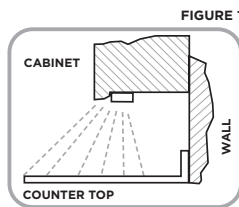
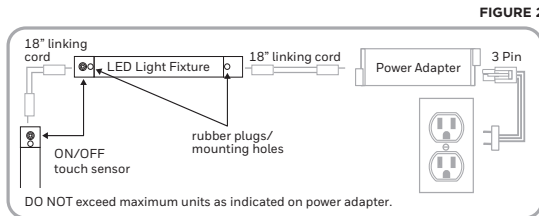

FIGURE 1
FIGURE 2
Carefully plan your installation prior to mounting the LED light fixture. For kitchen installations, the recommended mounting for the LED light fixture is under the cabinets near the front lip, as shown in **Figure 1**. This provides the best light distribution across a countertop. Make sure that the power supply cord will reach the nearest electrical outlet, and that the power adapter and the USB-C cord will reach the LED light fixture. See **Figure 2** for layout of components and all electrical connections.
5. Use the provided 18" linking cord to connect the power adapter to the LED light fixture by placing the male end of the linking cord into the corresponding female connection point on the power adapter and LED light fixture. See **Figure 2**.
6. Plug the 3-pin connector of the power supply cord into the corresponding connection point on the power adapter. See **Figure 2**.
7. Plug the power supply cord into any 120VAC/60Hz outlet. See **Figure 2**.
8. The connected LED light fixtures turn on/off by touching the on/off touch sensor on each fixture as shown in **Figure 2**. Note: Each LED light fixture will turn on/off independently of other connected LED light fixtures.
- B. Once installed, attach the 18" cord between the last LED light fixture (previously installed) and the new one. See **Figure 2** for layout of components and all electrical connections.